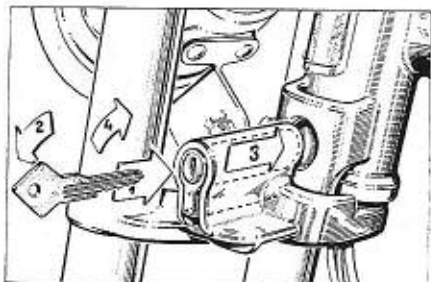

Fig. 5
- Unlock the vehicle (Fig. 5) and engage the neutral.